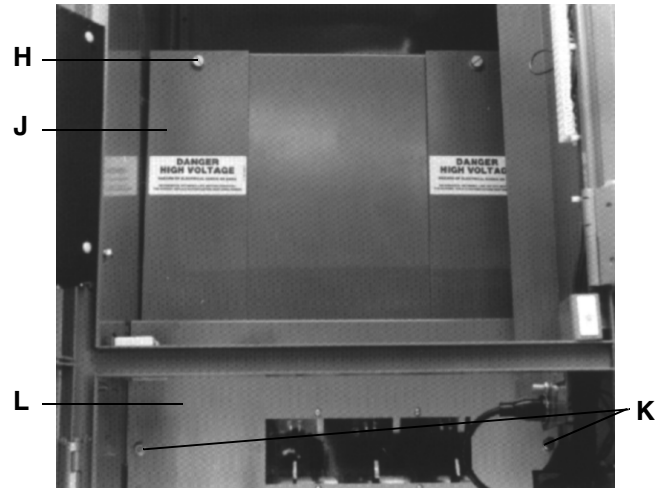

Figure 9 Removing Bus Access and Isolation Switch Barriers
9. Remove screw (Fig. 9, item H) and bus access barrier (Fig. 9, item J).
10. Loosen bolts (Fig. 9, item K). Remove isolation switch barrier (Fig. 9, item L).